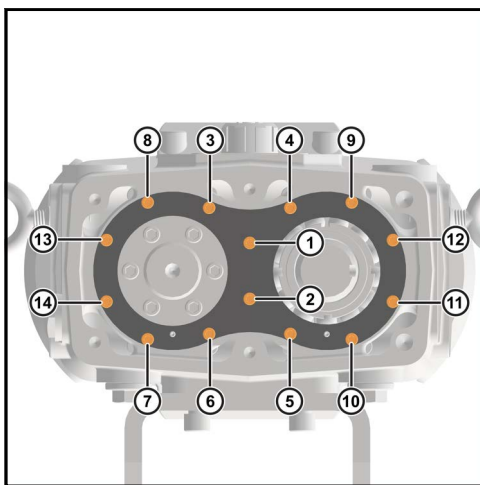

Figure 311 -Install and torque the rear bearing retainer bolts
- Install and torque the rear bearing retainer bolts to the stated specification as shown in Figure 311.